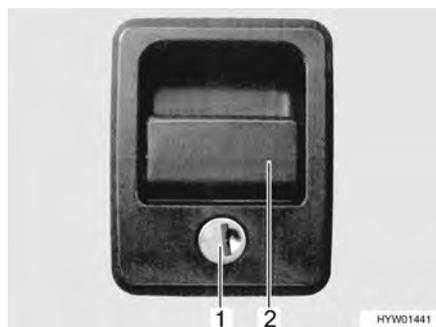

Fig. 30 Flap lock with recessed handle
- Opening:* ■ Insert key into locking cylinder (Fig. 30,1) and turn a quarter turn. The flap lock is unlatched.
- Pull on the lock handle (Fig. 30,2). The external flap is open.